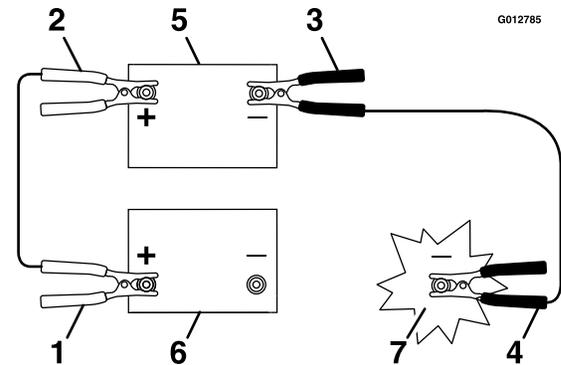

Figure 10
3. Connect the positive (+) cable to the positive (+) terminal of the discharged battery that is wired to the starter or solenoid as shown in Figure 10.